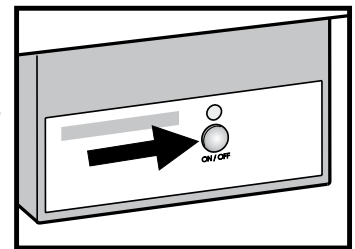

Figure 4
- Switch off the Ice Maker by pressing the On/Off-button on the IceMaker (Fig. 4). The IceMaker is in the top left drawer in the freezer compartment. You can identify this drawer by its labeling "IceMaker."
- Switch on the IceMaker by pressing the On/Off-button on the IceMaker in the freezer compartment. (Fig. 4)